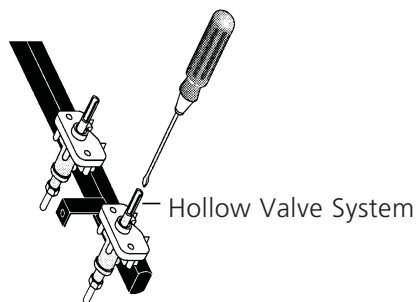

Figure 19
2. Adjust the "LO" or "SIMMER" Setting of Surface Burner Valves (30" Cooktops Only) (see Figure 19)